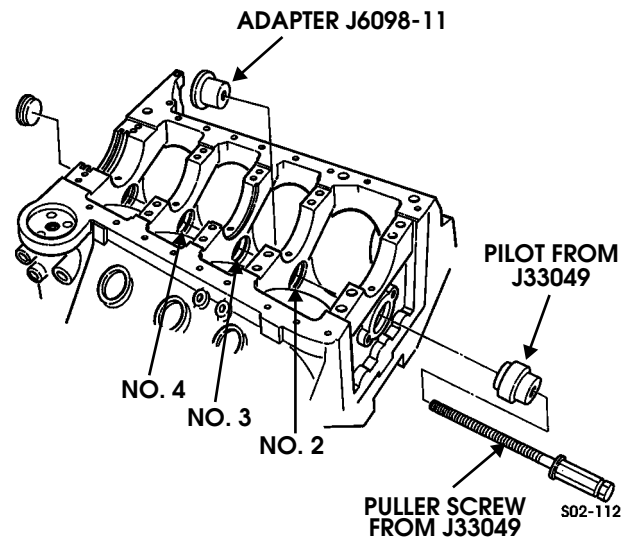

Figure 2-131: Removing Cam Bearings 2, 3, and 4
1. Remove camshaft plug at rear of block (Figure 2-131).
- a. Insert pilot from tool set J33049 in No. 1 bearing (Figure 2-131).